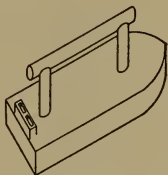

FIGURE 178. — DIAGRAM OF ELECTRIC FLAT-IRON.
**216. The Electric Flat-iron.** — The electric flat-iron (Figure 178) is very much like the ordinary flat-iron, except that it has a heating element and an attachment to connect it to the lighting system.